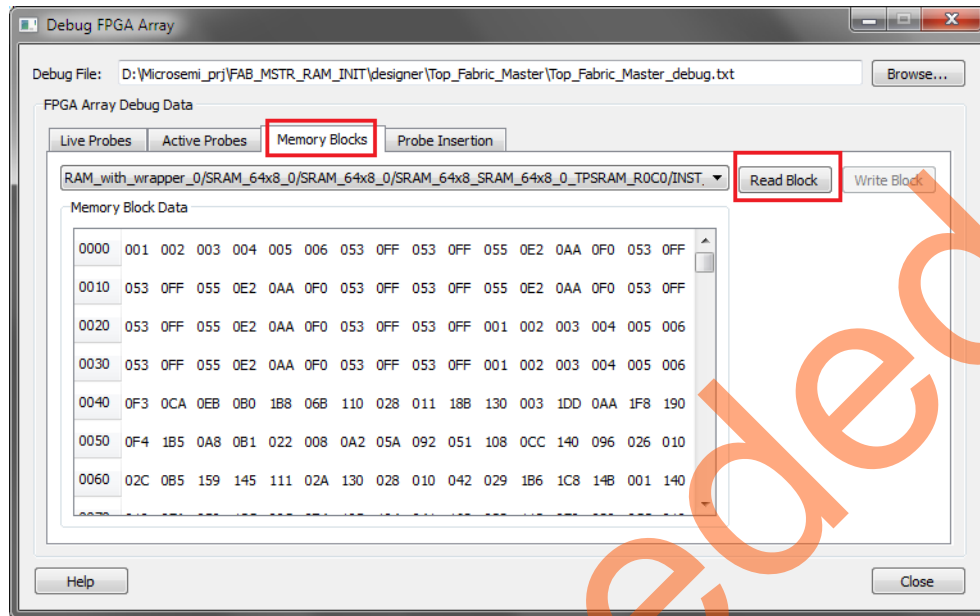

Figure 22 • SRAM Content Read from the Device
- a. Select the **Memory Blocks** tab as shown in Figure 22 on page 23.
- b. Click **Read Block** to read the SRAM content in real-time from the device. The content of the SRAM is displayed as shown in Figure 22. This is the same eNVM data, as shown in Figure 2 on page 4, that is used to initialize the SRAM.